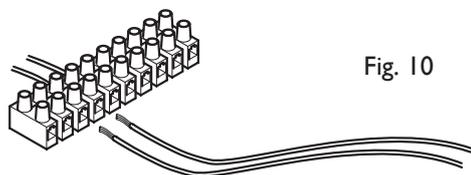

Fig. 10
11. Connect the Outdoor Sensor wiring to the terminals on the strip to which the brown wires are connected (Fig. 10)